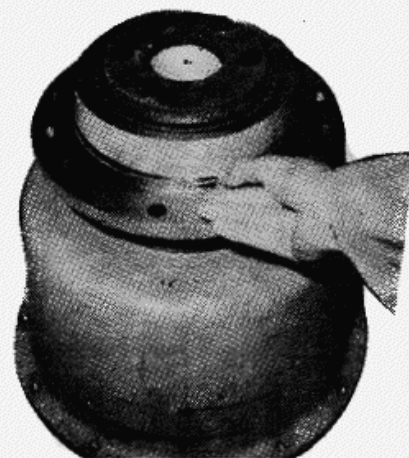

FIGURE 7-79.
e. Replace o-ring if required by inspection in step c (see figure 7-79).